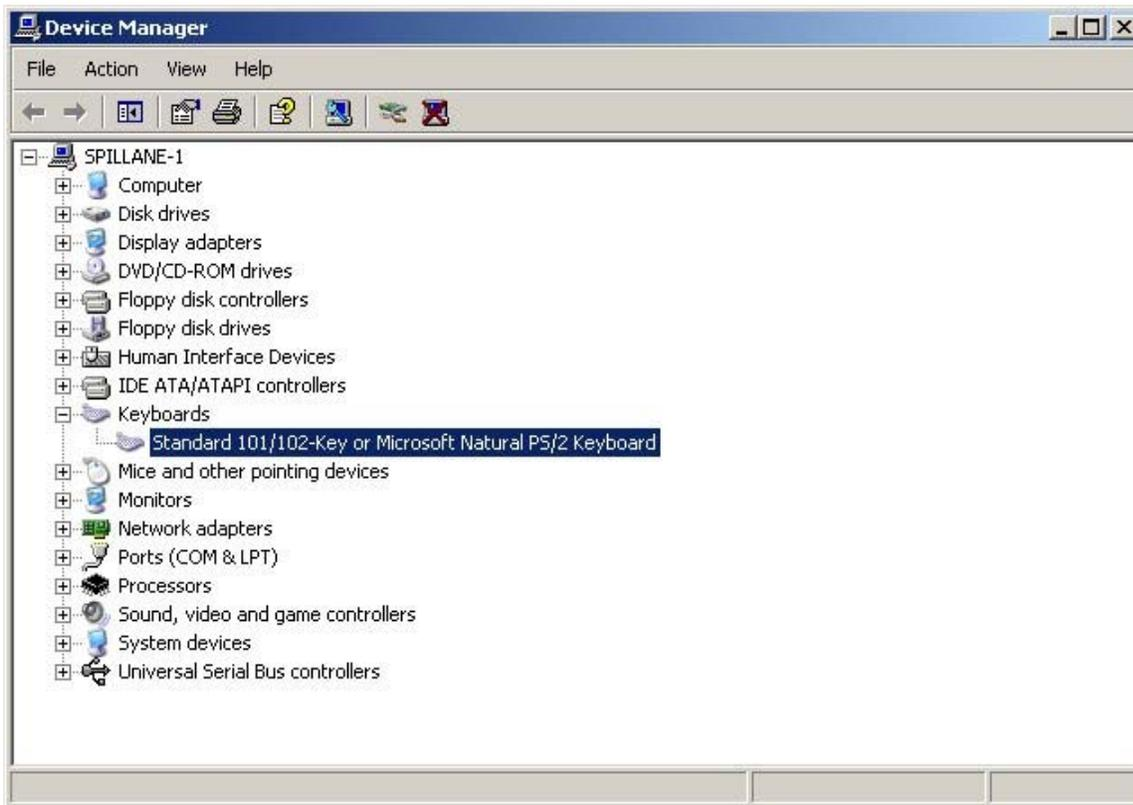

FIGURE 259. Device Manager window
7. If the Keyboards icon is not already expanded, click on the “+” to make it display as in Figure 259.